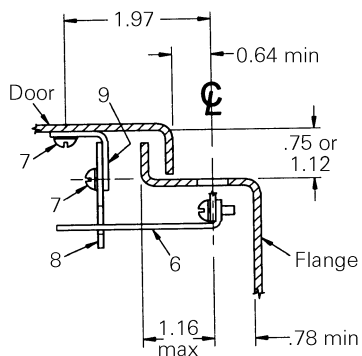
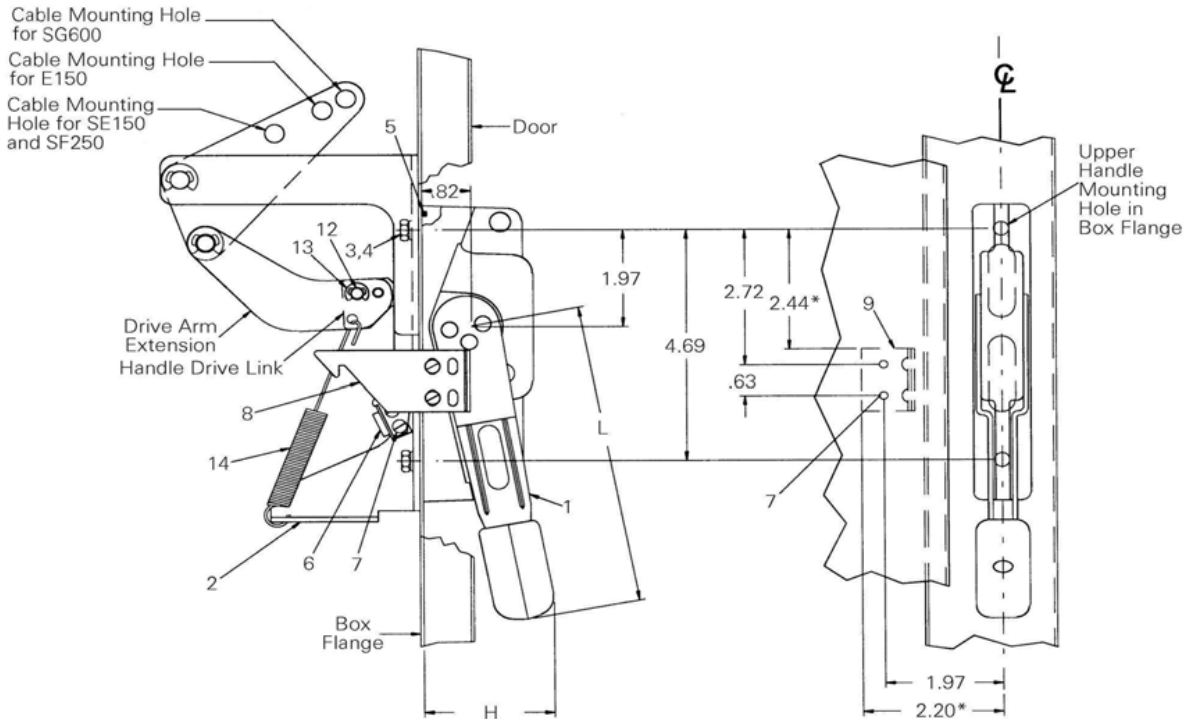

Figure 1. End view of flange and cover (right end shown).
Figure 3. Handle Installation.
Table 4. Handle Dimensions (see Figure 3)
- Referring to Figure 1, Figure 2, and Figure 3, determine the location of the handle on the flange of the enclosure. The handle can be mounted on either the right or left side of the enclosure.
- If the flange is not provided with handle holes and slots, drill these as shown in Figures 1 and 2. Remove any burrs.
- Assemble the interlock blade [6] to the handle with two #8-32 sems screws [7], as shown in Figure 1.
- Assemble the drive arm extension to the handle drive link with the connecting pin [12]. Secure the connection with an E-ring [13], as shown in Figure 3.
- Attach one end of the handle-return spring [14] to the hole in the drive link and the drive arm extension. Attach the other end to the hole in the lower flange of the cable adapter assembly, as illustrated in Figure 3.
- Drill and tap two #8-32 holes in the cover, as shown in Figures 1 and 3. Assemble the interlock bracket [9] to the cover with two #8-32 sems screws [7] from inside the door. Alternatively, the bracket may be welded to the cover, using the dimensions noted with an asterisk (\*) in Figure 3, to locate the upper-left corner of the bracket, as illustrated in Figure 1.
Refer to Figures 3 and 7.